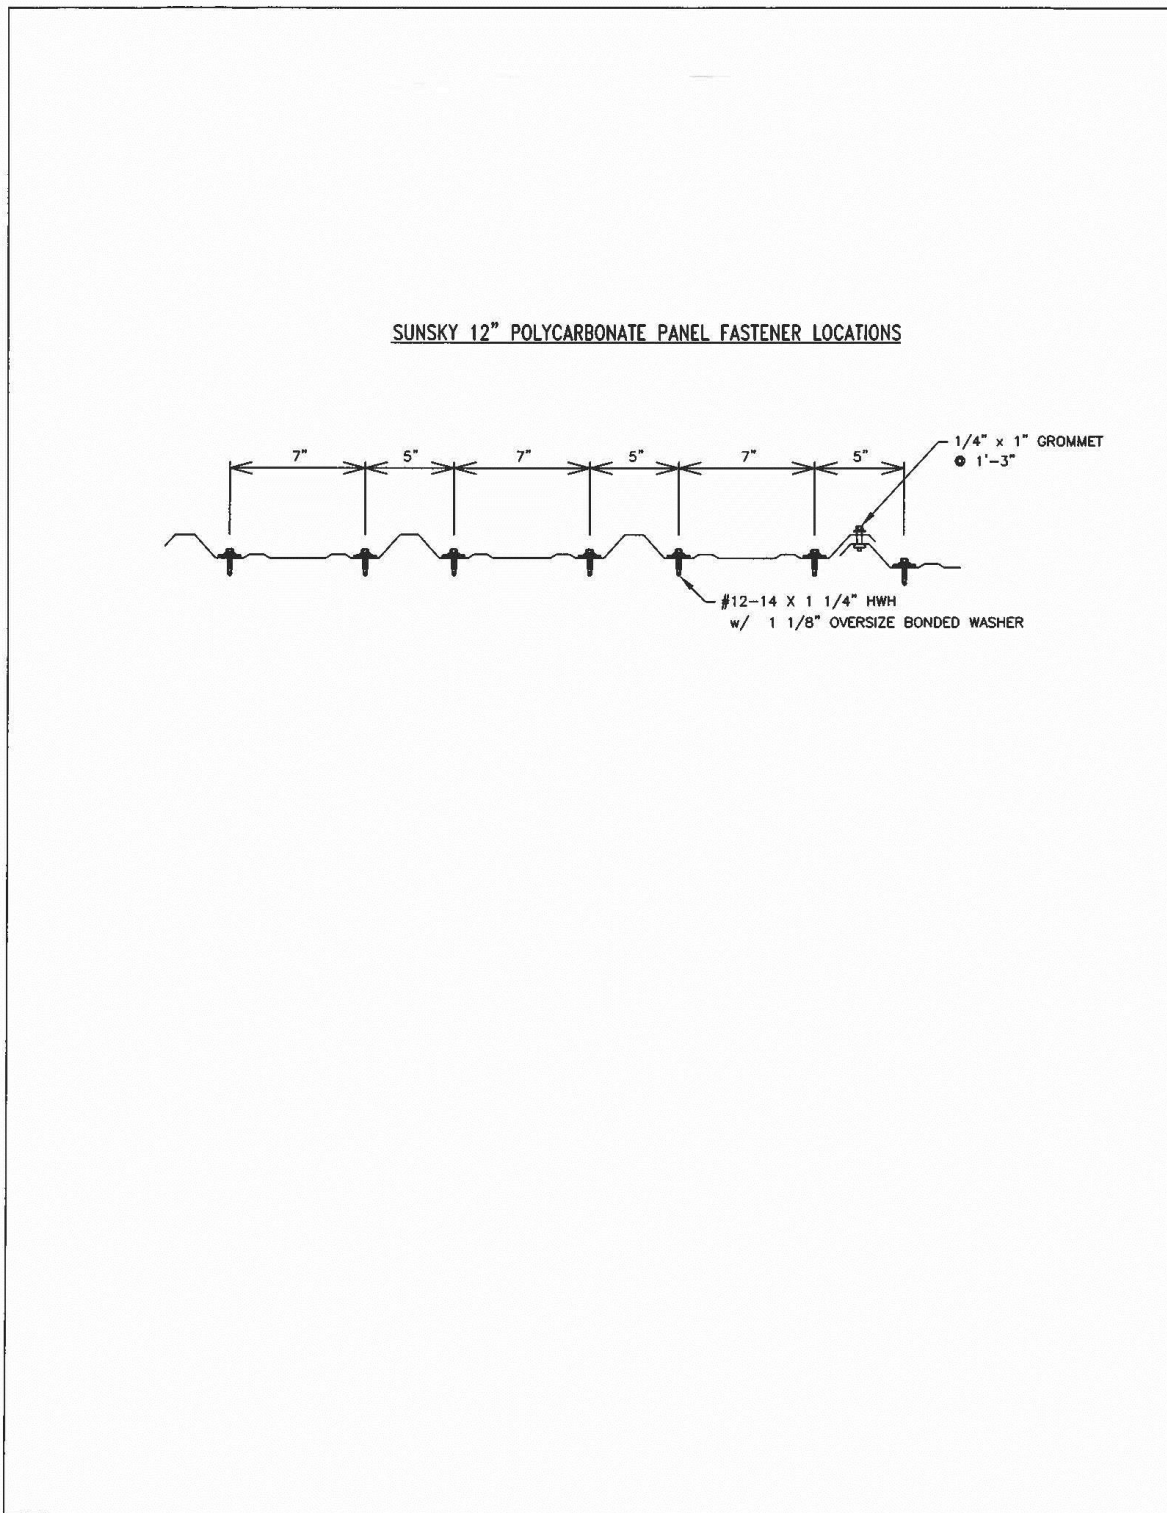

Figure 1. Illustration of the required fastener pattern
**Attachment of Roof Panels to Steel Purlins:** The roof panels must be fastened to the purlins with minimum No. 12-14 x 1-1/4" long, HWH self-drilling screws with a 1-1/8" oversized bonded washer. A line of fasteners must be located along each steel purlin. The fastener pattern and the spacing along the length of the panel must be as specified in Table 1 and Table 2. The fasteners must be long enough to penetrate a minimum of 3 pitches of thread below the steel purlin. Refer to Figure 1 for an illustration of the required fastener pattern.
**Panel Side Laps:** The panel sidelaps are stitched together with minimum one 1/4-14 x 1" Grommet at each support then 1'-3" on center. Refer to Figure 1 for an illustration of the required fastener pattern.
**Panel Ends and End Laps to the Steel Purlins:** Minimum No. 12-14 x 1-1/4" long HWH self driller screws with a 1-1/8" oversized washer. A line of fasteners in a 7"-5"-7"-5"-7" pattern must be located along the steel purlin. The fasteners must be long enough to penetrate a minimum of 3 pitches of thread below the steel purlin. Refer to Figure 1 for an illustration of the required fastener pattern.